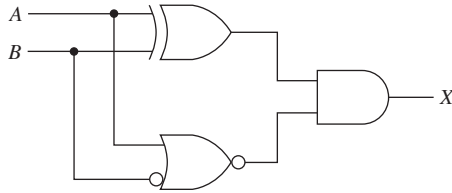

Figure 6
Write the Boolean equation for the circuit shown in Figure 6 and simplify.
- (a) Load the file *fig6_16* from the text companion website. Run the simulation and press the space bar to move the control signal switch to the 0 position. Press it again to return to the 1 position. Which position creates the complement signal at the output?